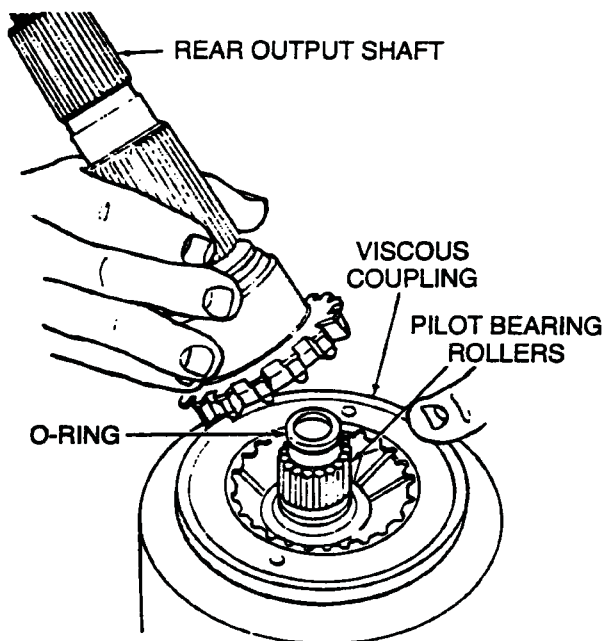

Fig. 4-10 Remove Rear Output Shaft, Pilot Bearing Rollers and O-Ring
11. Remove rear output shaft from viscous coupling (Fig. 4-10).
12. Remove 15 pilot bearing rollers (Fig. 4-10).
13. Remove the mainshaft O-ring (Fig. 4-10).